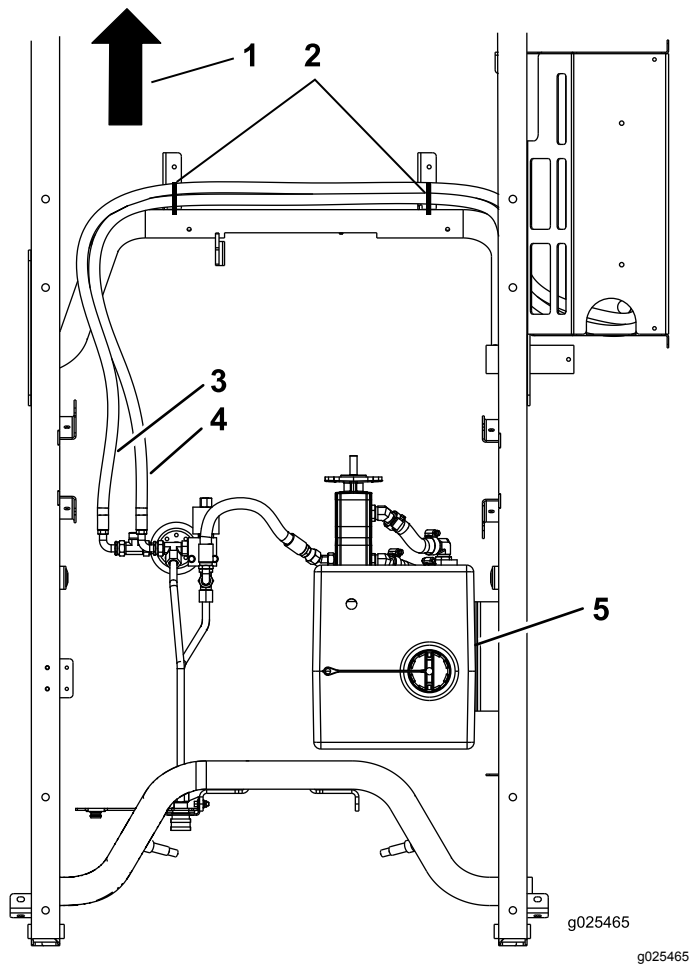

Figure 17
5. Route the long hoses along the frame and over to the cooler (Figure 17).
6. Use the cable ties to secure the long hoses (Figure 17).